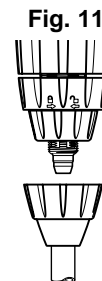

Fig. 11
- Unscrew the nut (**Fig. 11**) at the bottom of the injection assembly and put it onto the tube.